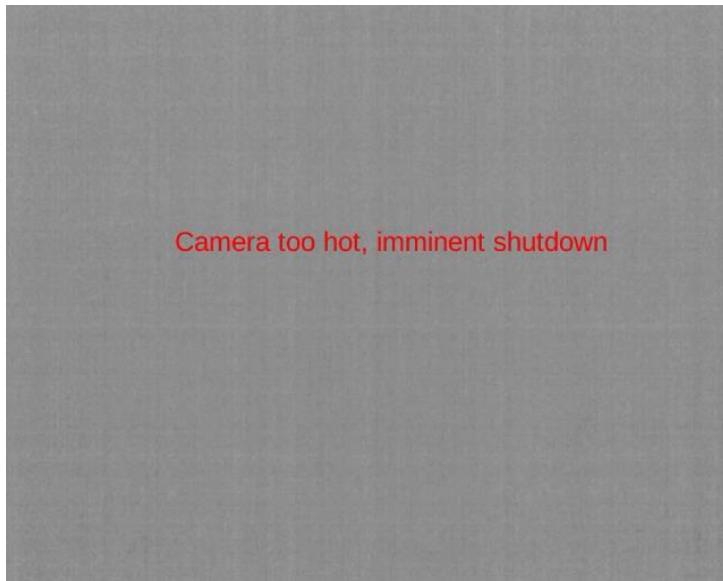

Figure 33: “Overtemp” Symbol (Factory-Default)
- Overtemp State: By factory default, the symbol shown in Figure 33 is displayed whenever the camera is in the overtemp state. (See Section 7.2 for full description of this state.)
- **Overtemp**: The *Overtemp* flag indicates the camera has exceeded its maximum operating temperature and will automatically enter Low-Power state. See Section 7.2 for more information regarding the Overtemp feature and Low-Power state. By factory default, a text warning will appear in the center of the display whenever the *Overtemp* flag is set. (See Figure 33 in Section 6.8.)